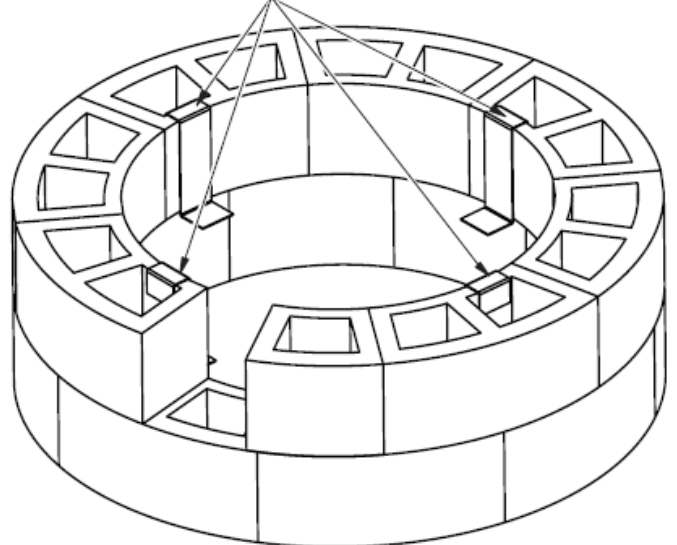

Figure 10 - Heat Shield Retaining Brackets (BOFP16-48 Shown)
5. Place 4 heat shield retaining brackets (longer of the 2 types of brackets included with the BOFP-48 Series burner system) on the top layer of blocks in the pattern shown in Figure 10.